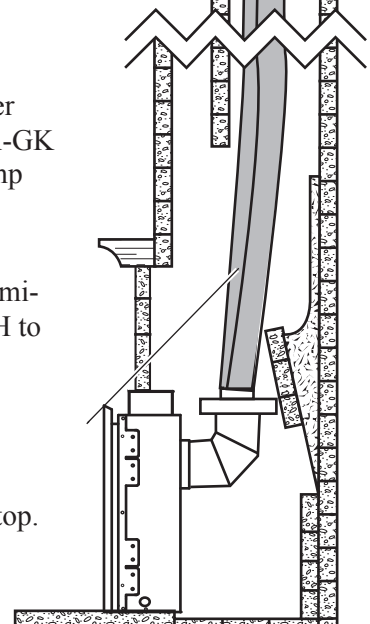

Figure 33d - Chimney Termination.
6. Connect a Chimney Liner Termination Kit 46DVA-GK and both flex lines. Clamp and secure with screws. Figure 33d.